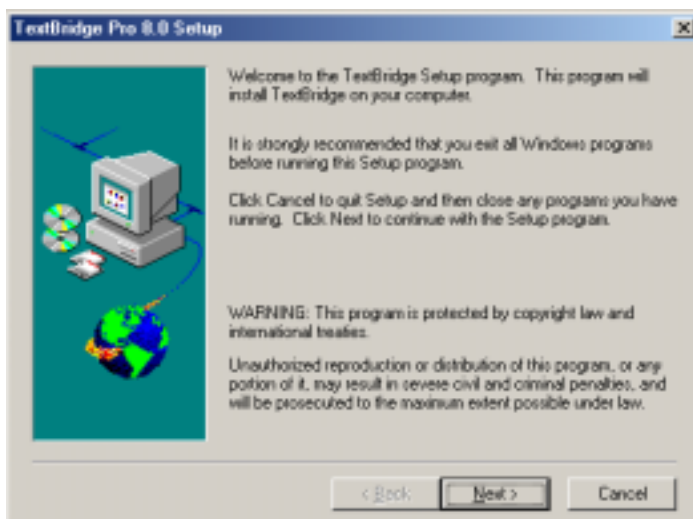

Figure 4: TextBridge Pro 8.0 installation
4. Click on 'Next' to continue with the installation. See figure 4.